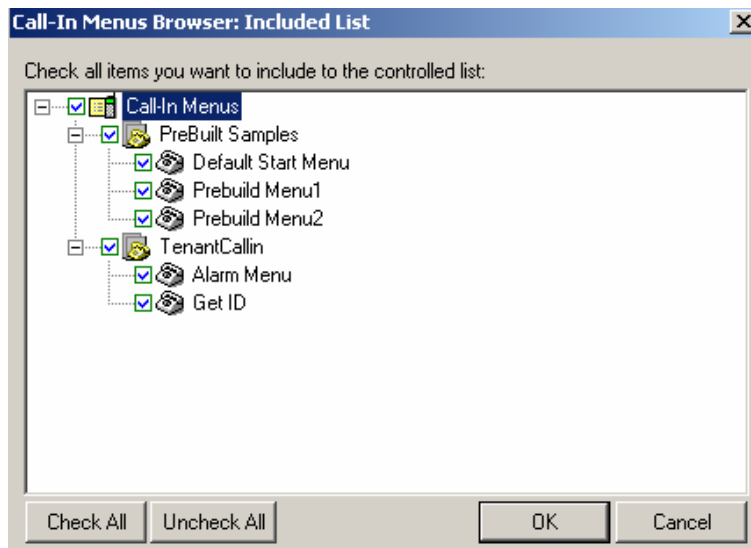

Figure 9.63. Selecting Call-in Menus To Include
2. This opens the **Call-in Menu Browser** dialog box, shown in **Figure 9.63**, which displays all available Call-in menus from the Configurator tree control. Simply select the menus that you wish to include to allow the user or group access (or exclude to prevent user or group access). Click **OK**.